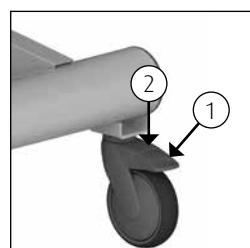

Figure 2 Wheel blocking.
- The brake can be applied on the Marina by pushing the blue lip (1) on the wheel downwards (*See figure 2*).
- In order to take the Marina off the brake, the same lip on the wheel must be moved upwards by tapping the upper side of the lip (2) (*See figure 2*).